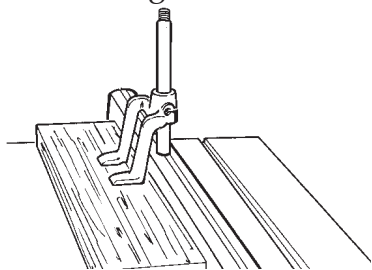

Figure 8
1. Loosen setscrew below the center hole in the top of the fence. Position the fence 2-1/2" behind the chisel. With the hold-down foot positioned toward the chisel, slip the rod (8) into the Rip Fence hole and secure by tightening the setscrew in the Rip Fence. See Figure 8.